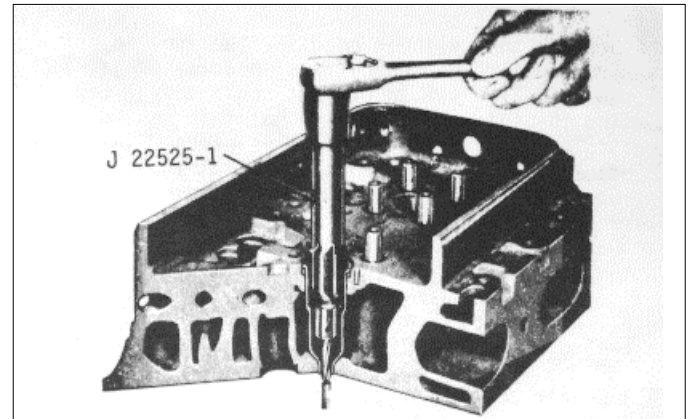
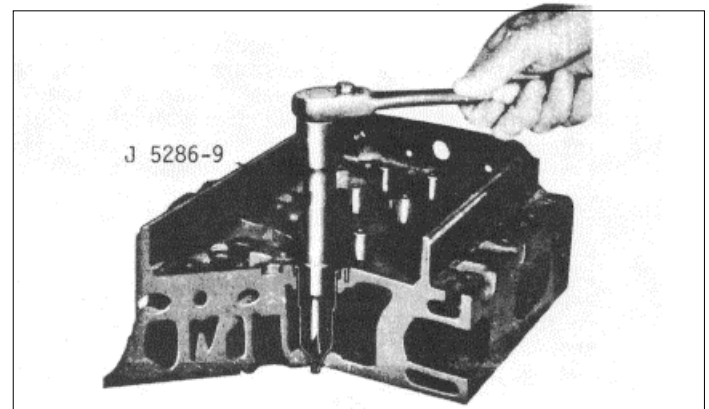

Fig. 4
Fig. 5
After an injector tube has been installed in a cylinder head, it must be finished in three operations: First, hand reamed, as shown in Fig. 4, to receive the injector body nut and spray tip; second, spot-faced to remove excess stock at the lower end of the injector tube; and third, hand reamed, as shown in Fig. 5, to provide a good seating surface for the bevel or
- (1) Ream the injector tube for the injector nut and spray tip. With the cylinder head right side up and the injector tube free from dirt, proceed with the first reaming operation as follows:
- (b) Turn the reamer in a clockwise direction (withdrawing the reamer frequently for removal of chips) until the lower shoulder of the reamer contacts the injector tube (Fig. 4). Clean out all of the chips.
- (2) Remove excess stock:
- (3) Ream the bevel seat in the injector tube: